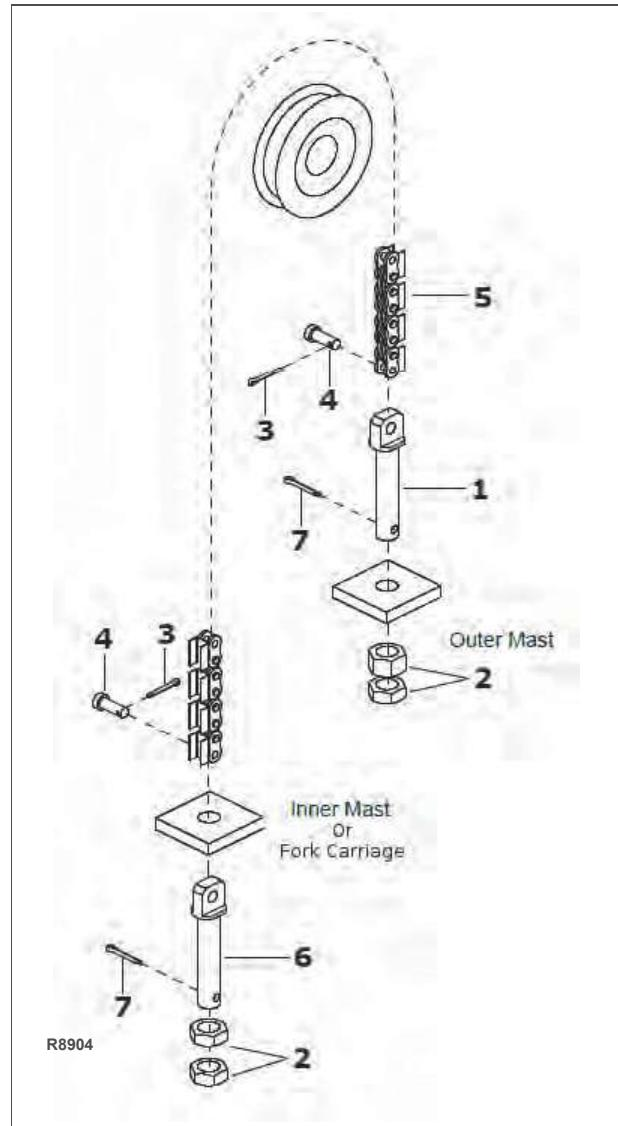
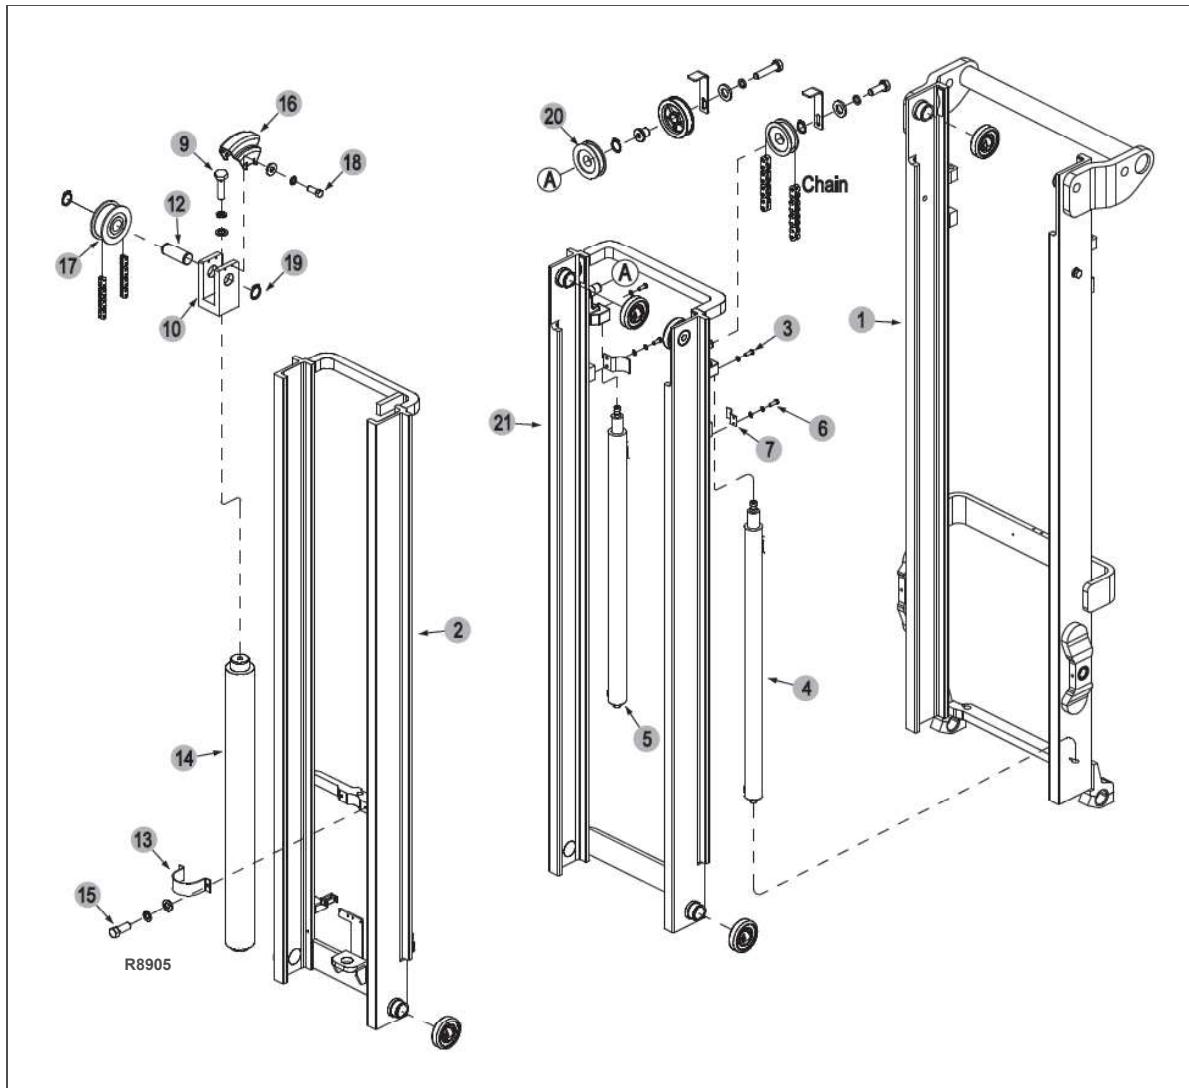

Figure 8-1 Chain Assembly
Figure 8-2 Mast System
4. Loosen the lower of the two jam nuts (2, Figure 8-1) on chain anchor (1) to allow for adjustment of the top jam nut (2).
5. Break the lower jam nut (2) free from the top jam nut (2).
6. Take up slack in both lift chain with the top jam nut (2) by screwing it upward.
7. Align chain anchor (1) so the cotter pins (7) are parallel to the mast.
9. Tighten jam nuts (2) securely while maintaining alignment of cotter pins (7).
4. Remove the cotter pin (7, Figure 8-1) and remove the two jam nuts (2) from the chain anchor (1) and chain anchor (6).
5. Remove the chain assembly from the chain sprocket (20, Figure 8-2).
6. Remove the cotter pin (3, Figure 8-1), pull out the pin shaft (4) and separate the chains (5) from the chain anchor (1) and chain anchor (6).
8. Put the chain anchor (6) through the inner mast (2, Figure 8-2) chain anchor brackets hole, secure with the jam nuts (2, Figure 8-1).
9. Put the chain anchor (1) through the outer mast (1, Figure 8-2) chain anchor bracket hole, secure with the jam nuts (2, Figure 8-1).
5. Remove the chain assembly from the chain sprocket (17, Figure 8-2).
8. Put the chain connector (6) through the fork carriage chain anchor brackets hole, secure with the jam nuts (2).
9. Put the chain anchor (1) through the middle mast (21, Figure 8-2) chain anchor bracket hole, secure with the jam nuts (2, Figure 8-1).